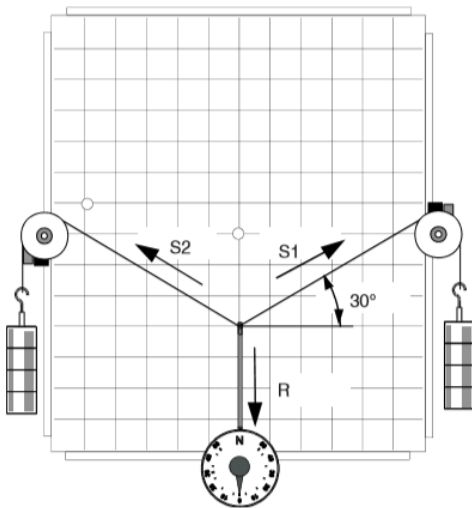

Figure 7: Adding forces with different directions
- 1) Setup up the experimental board as shown in Figure 7